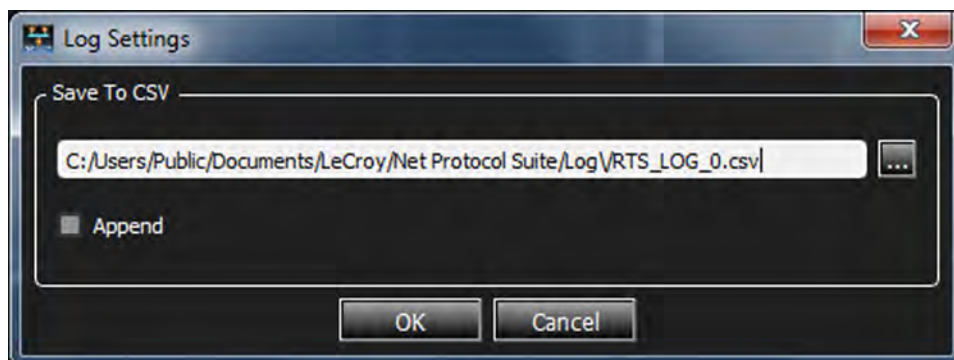

Figure 4.172: Location of Log File
- Log (Set location of Log file, see Figure 4.172)
The Location of the default Log File is shown below, see Figure 4.172: